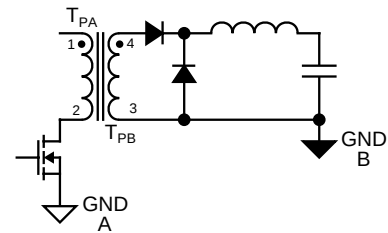

Figure 9. Forward Topology, Partial Schematic
- Forward transformers always have polarity dots at the same terminal ends and an output *power* inductor. See Figure 9.